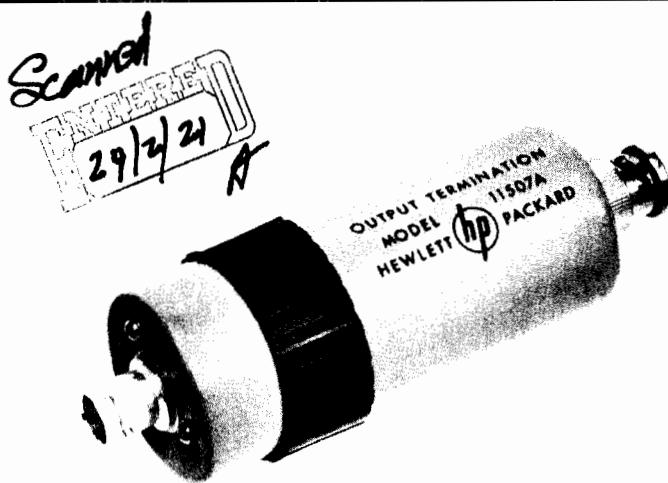

Figure 1. Model 11507A Termination
2. The Model 11507A Output Termination (Figure 1) is a feed-through device having a 50-ohm input impedance. A three-position rotary switch controls attenuation and output impedance. One position of the switch selects a dummy antenna (see IRE Standards on Radio Receivers, "Methods of Testing Amplitude Modulation Broadcast Receivers", 1948).